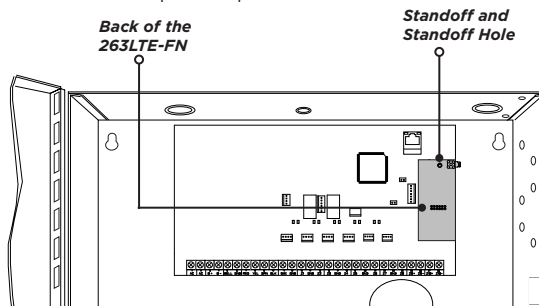

Figure 3: 263LTE-FN on an XR150/XR550
3. Secure the 263LTE-FN on the 12-pin cell module connector. See Figure 3.